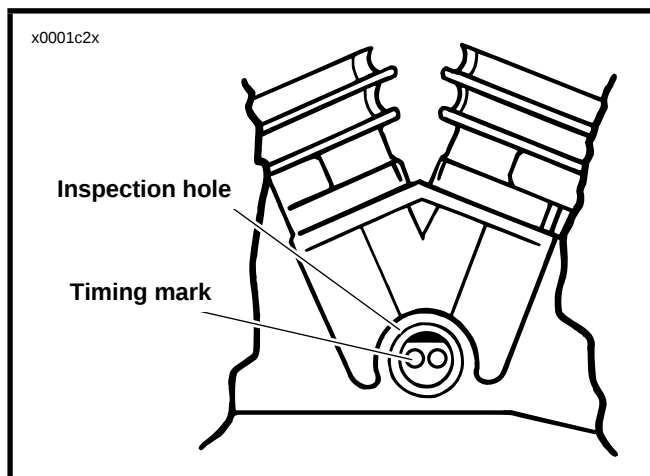

Figure 1-42. Timing Inspection Hole
1. See Figure 1-42. Thread TIMING MARK VIEW PLUG \(Part No. HD 96295-65D\) into timing inspection hole. Be sure view plug does not touch flywheel.